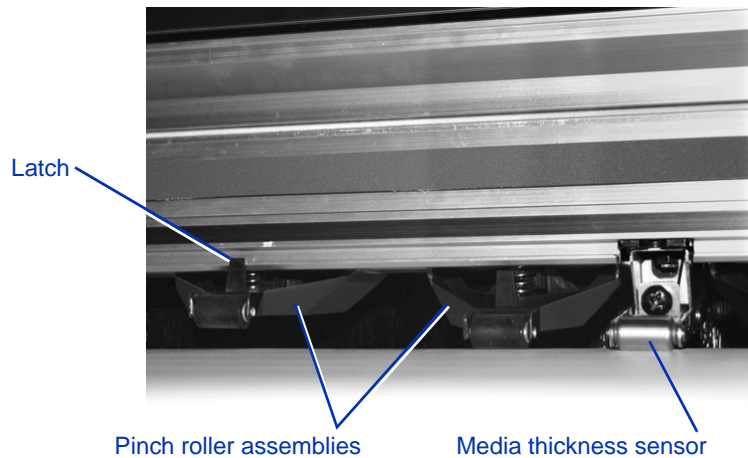

Fig. 2-5. Pinch rollers
11. If the edge of the media you are using is directly below a pinch roller, raise that pinch roller by pushing it up and then pushing the latch toward the rail to engage it (see Fig. 2-5 below). To lower the pinch roller, push it up and the latch will disengage, then lower the roller to the platen.